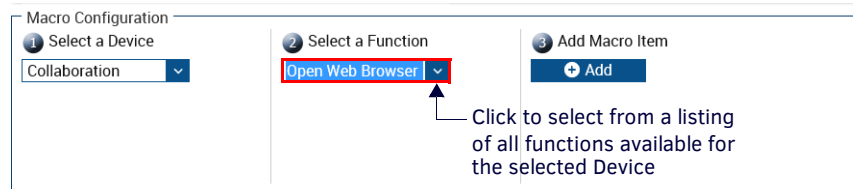

FIG. 60 Macro Details page - Select a Function
4. Under **Select a Function**, select the device function that you want to include in the macro (FIG. 60):